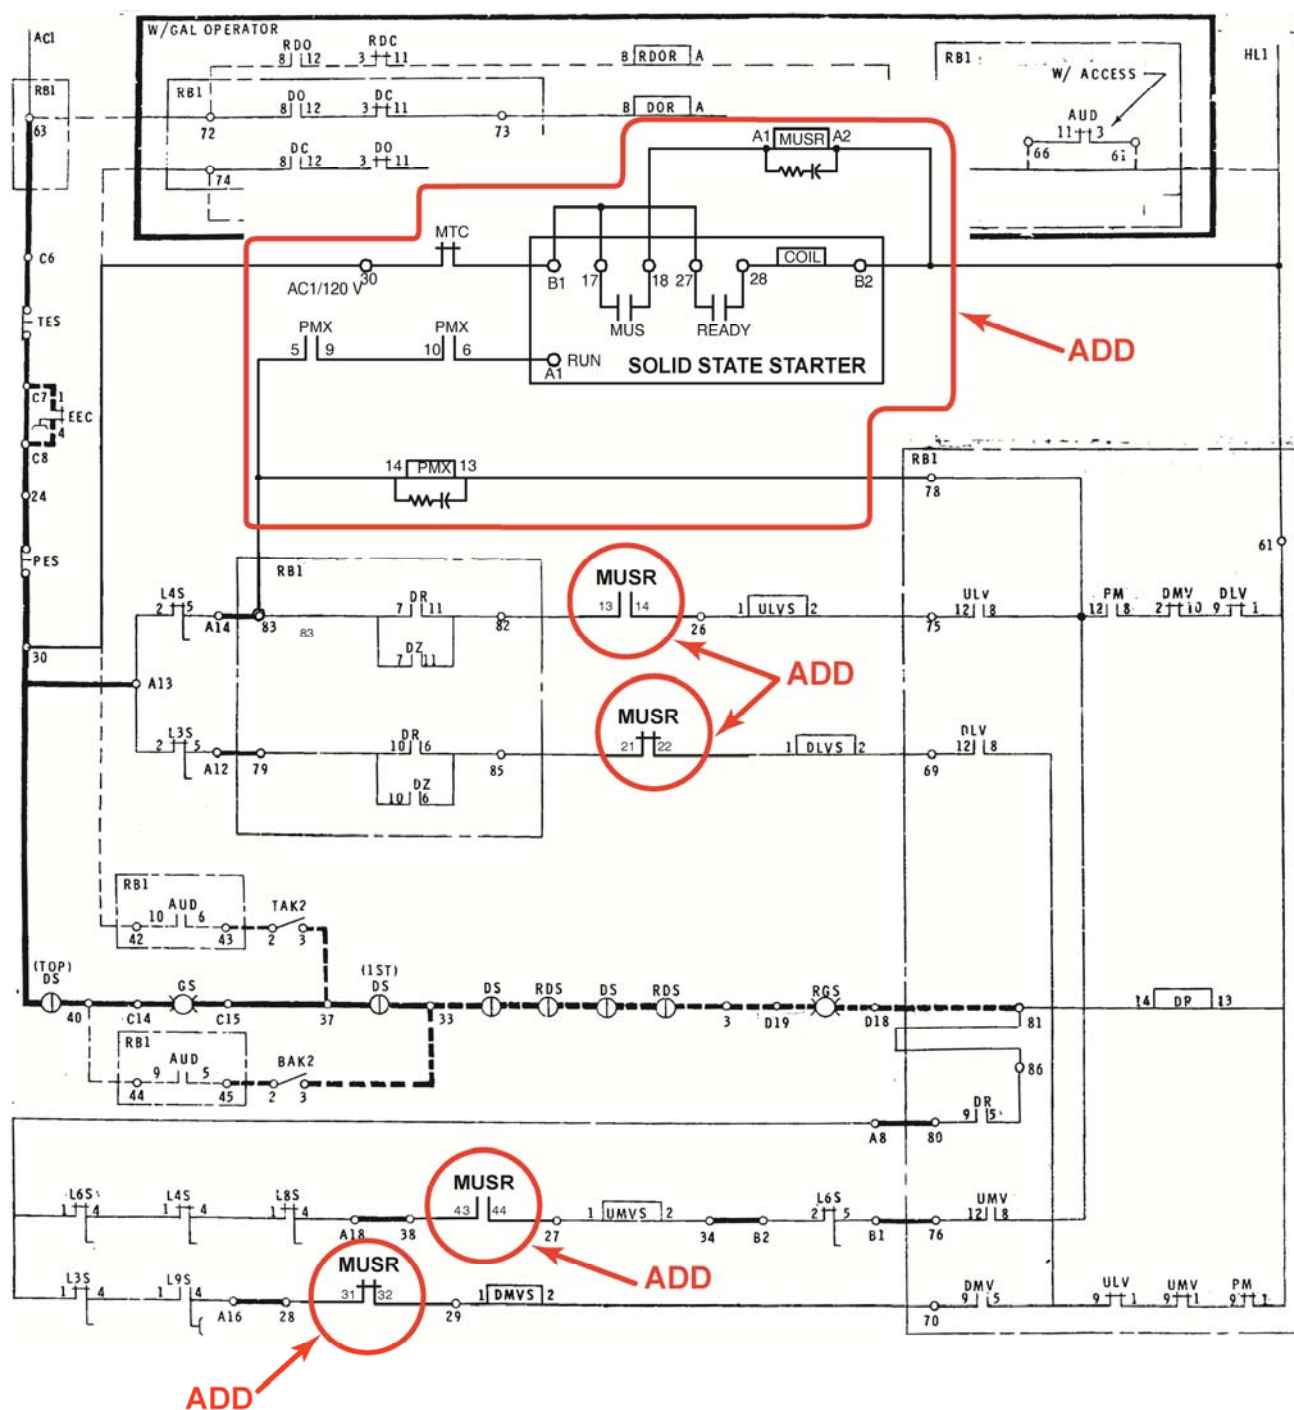

Figure 14: Solid State Starter, PMX, and MUSR with PM Contact on HL1 (120 V RTN)
Refer to Figure 14.
- For Controller Type 1, refer to Figure 14.
The new motor up-to-speed relay (MUSR) interlocks the hydraulic control valve with the solid state starter. It is used to prevent a load from being applied to the motor before it is up to speed. The MUSR contacts replace existing PMC or MC auxiliary contacts that interlocked the UP and DOWN valves with the existing starter. Some arrangements of controllers did not have PMC or MC interlock contacts in series with each valve. If this is the case, an MUSR contact will be added and wired in series with the valve on the 120 VAC supply side as shown in Figures 14, 15, and 16.
For controllers that did not have a PMC or MC auxiliary contact in series with each valve, wire an MUSR contact on the 120 VAC supply side of ULVS, UMVS, DLVS, and DMVS. Use Figures 14, 15, and 16 as examples.